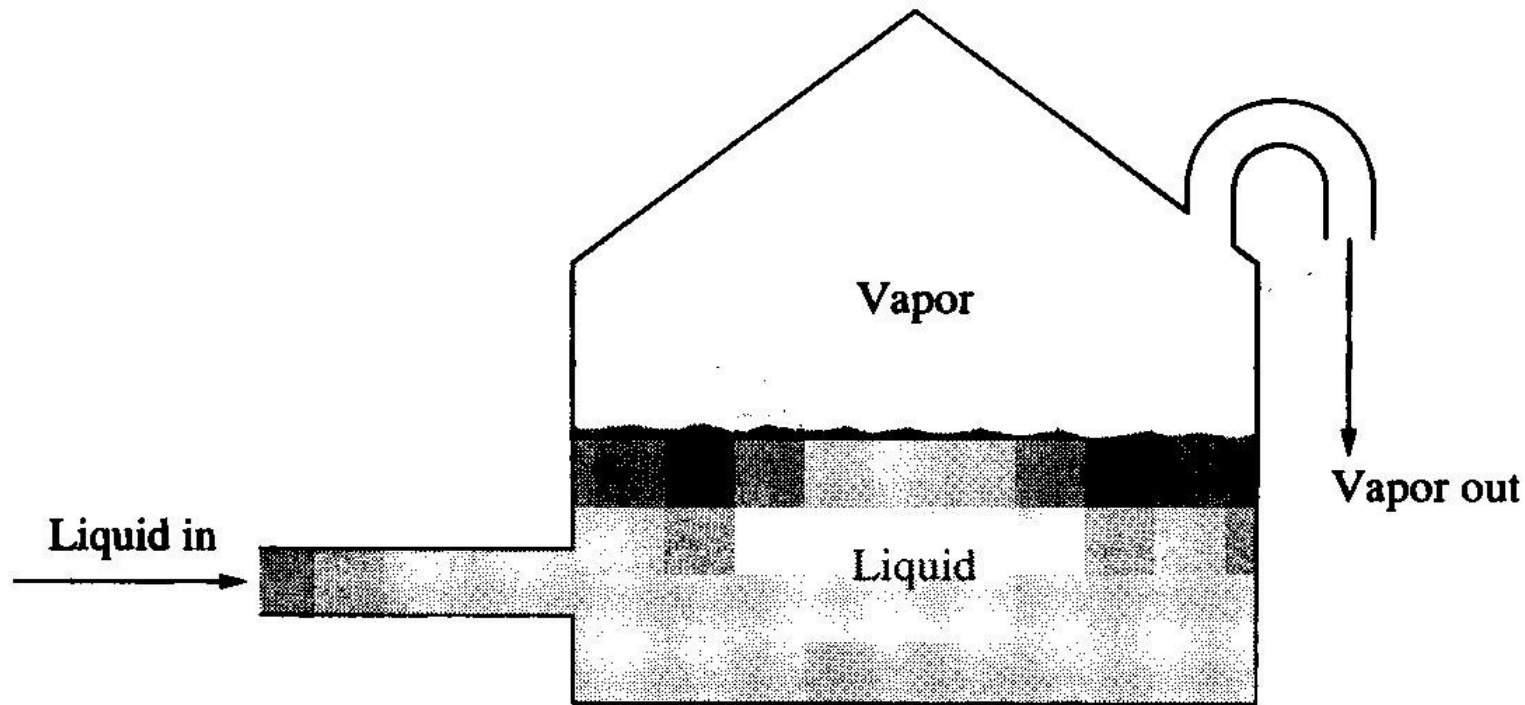

FIGURE 10.2
- Figure 10.2 shows a simple tank of some kind being filled with liquid from a pipeline.
Figure 10.2 de Nevers